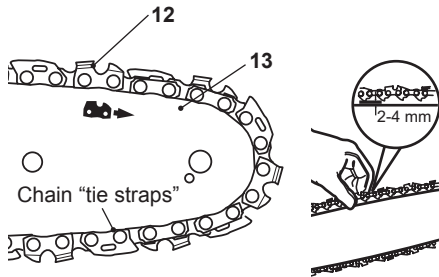
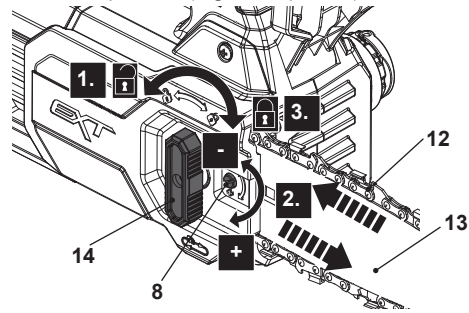

Fig. 7
Fig. 8
1. Place the product on a suitable flat surface with the chain saw cover (15) facing forwards.
2. Check the chain tension using one hand to lift the saw chain (12) against the weight of the product. The correct chain tension is achieved when the saw chain (12) can be lifted by approximately 2 - 4 mm from the guide bar (13) in the centre (Fig. 7).
3. Adjust the tension if you find that the saw chain (12) is too loose or tight.
4. Slightly loosen the locking wheel (14) anticlockwise, then screw the tension screw (8) anticlockwise or clockwise to adjust the tension pin (9) / guide bar (13) towards the left or right until the chain 'tie straps' are just touching the bottom edge of the guide bar (13), hold it in the position (Fig. 8, steps 1, 2).
5. Pull the saw chain (12) along the top of the guide bar (13) by gloved hand from one end to the other, several times. The saw chain (12) should feel tight but still move freely.
6. After the adjustment, re-tighten the locking wheel (14) (Fig. 8, step 3).